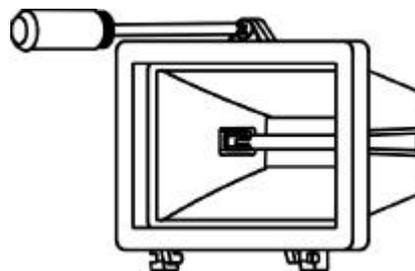

FIGURE 6
- (6) Carefully replace front surround making sure that the seal is correctly positioned. Screw up tightly (FIGURE 6).